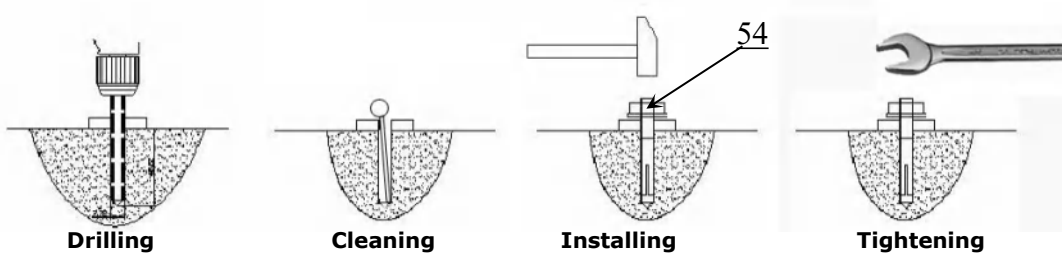

Fig. 25
3. Install the control cabinet anchor bolt (See Fig. 25)